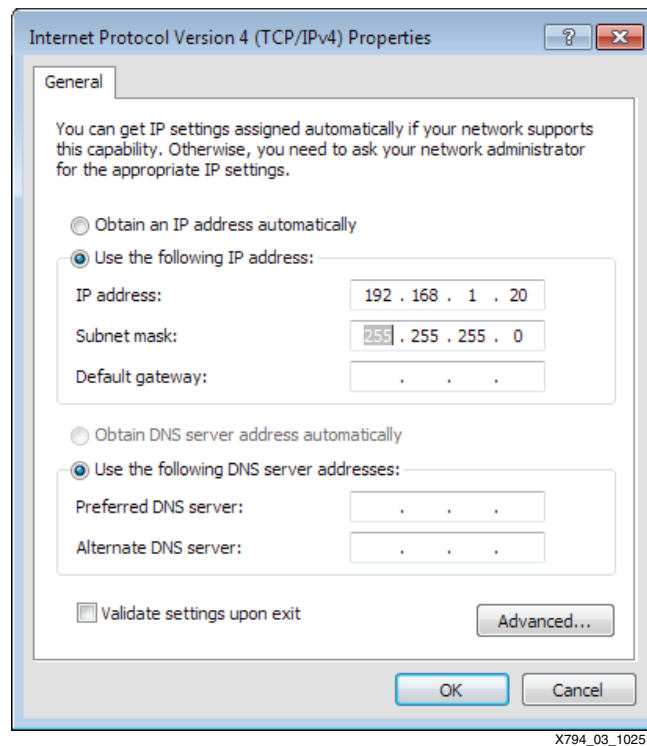

Figure 3: Host Computer IP Address Configuration Dialog Box
- Click the **Subnet mask:** field and ensure that it is populated with 255.255.255.0. The dialog box should appear similar to Figure 3.